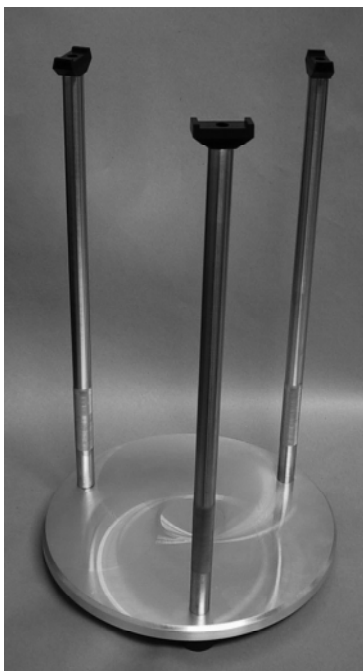

Figure 4. Model 8540B Test Stand (23-inch height). (Model 8540A -not shown- provides 38-inch height)
- 1. Mount the iDome to a test stand (figure 4). This